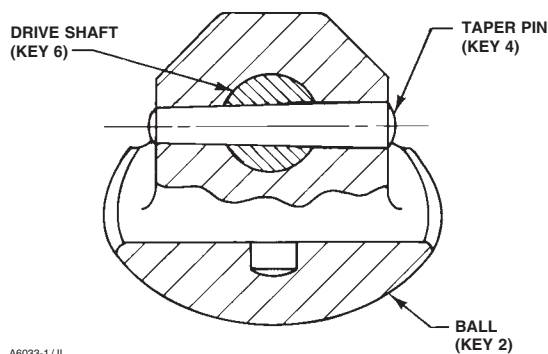
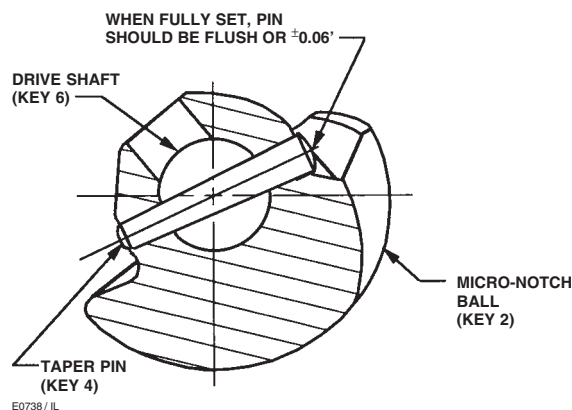

Figure 20. Taper Pin Installation for Design V150, V200, and V300 Sizes 1, 1.5, and 2-Inch Valves.
Figure 21. Taper Pin Installation for Design V150, V200, and V300 Size 1-Inch Valves with Micro-Notch Ball Construction
1. A taper pin (key 4, figure 20) is used in the 1-, 1.5, and 2-inch size valves, and in the 1-inch size Metal Micro-Notch valve (figure 21).
7. Insert the taper pin into the ball and drive shaft as shown in figures 20 and 21. The small end of the taper pin must be inserted into the larger hole side of the ball ear (or ball, for Micro-Notch constructions), and into the large hole side of the drive shaft.
For 1-, 1.5, and 2-inch valves, the taper pins (figure 20) do not require welding.